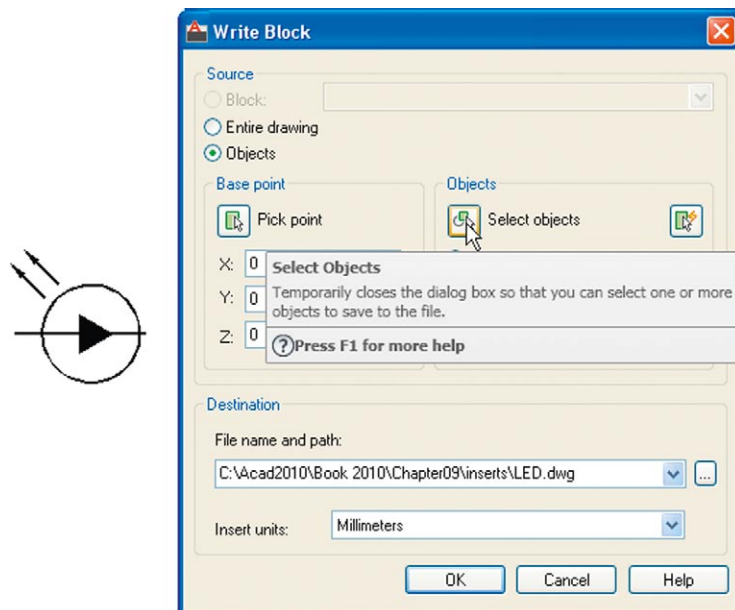

Fig. 9.19 Example – Wblock
### Example – wblock (Fig. 9.19)
1. Construct a light emitting diode (LED) symbol and *enter w* at the command line. The **Write Block** dialog appears (Fig. 9.19).